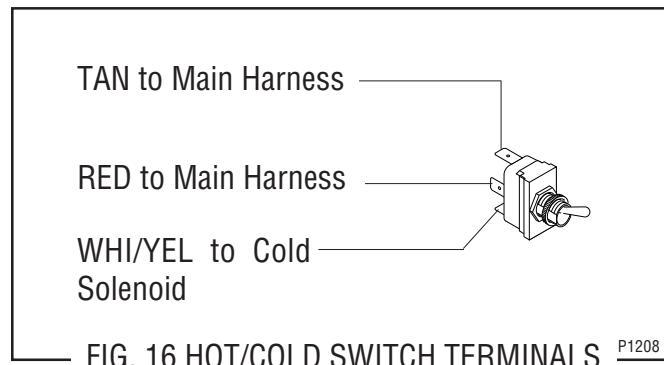

FIG. 16 HOT/COLD SWITCH TERMINALS
6. Refer to Fig. 16 when reconnecting the wires.